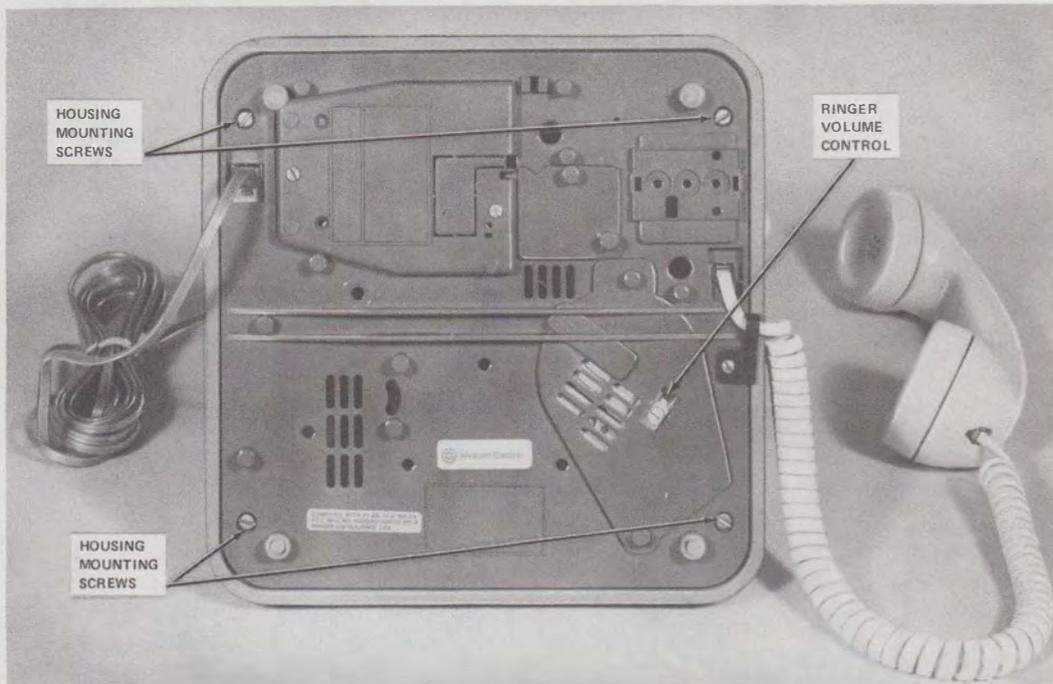
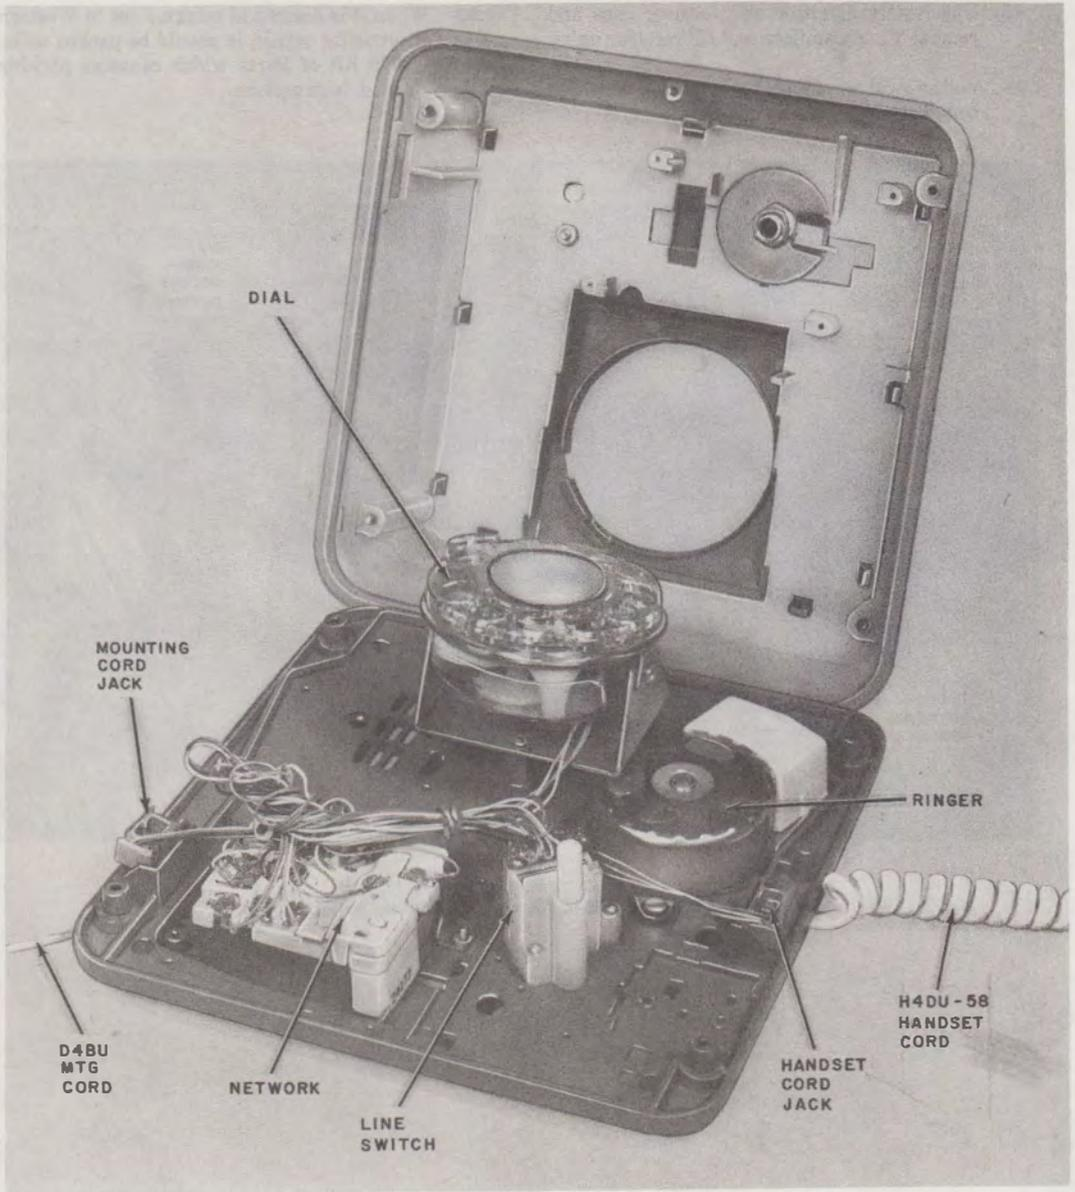

Fig. 2—881C109 or 2881C109 Telephone Set, Bottom View
Fig. 3—881C109 Telephone Set With Housing Open
- (1) Remove four housing mounting screws from the bottom of the telephone set (Fig. 2) and remove housing.
(2) For the 881B109 or 2881B109 only, pop off small black cover on bottom of base and remove two outer line switch mounting screws from the base and remove line switch.
(3) For the 881C109 or 2881C109 only, remove two line switch mounting screws and remove line switch (Fig. 3).
(4) Remove two network and two ringer mounting screws from the base and remove network and ringer. (Fig. 3).